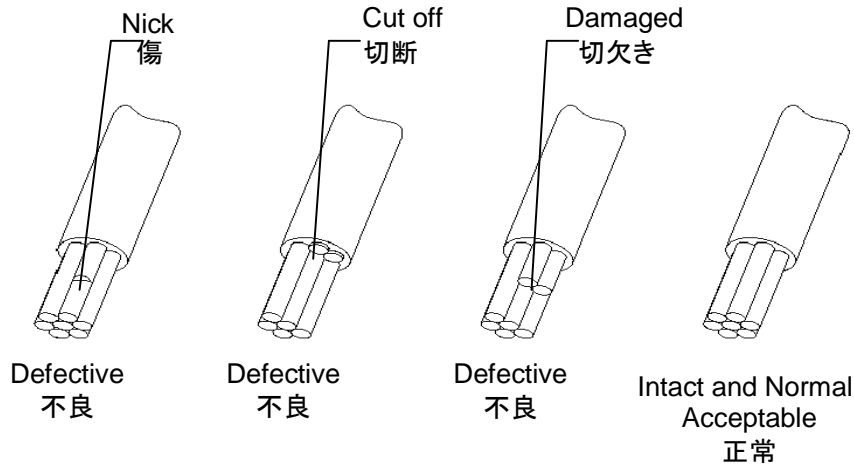

Fig.6
- (4) When removing the contact reel from the machine, fasten the end of the contact strip onto the edge of the reel with use of proper string or wire. Fig 6.